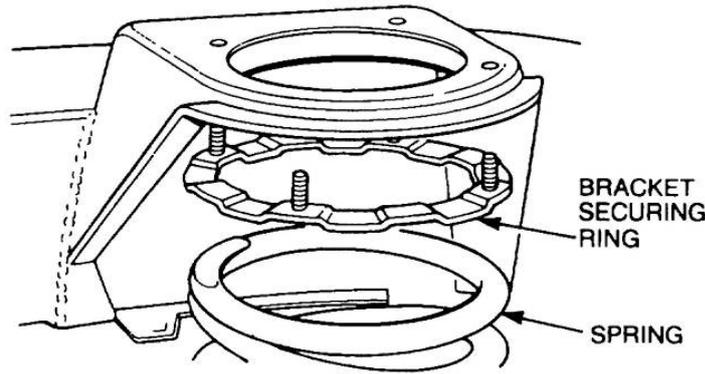

Figure 143 Front Shock Absorber Bracket Removal
- g. Remove the nuts and lock washers securing the shock absorber bracket to the chassis rail bracket (Figure 143).
- f. Install the nuts and new lock washers that secure the shock absorber bracket to the chassis rail bracket (Figure 143) and tighten them securely.